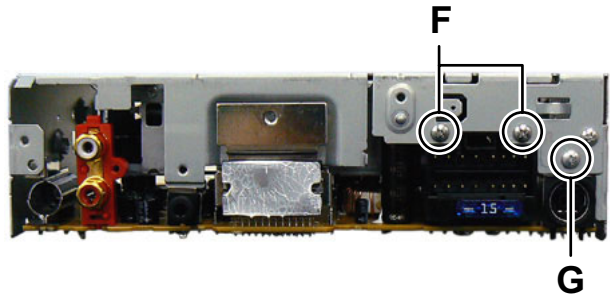

Fig.5
3.1.4 Removing the MAIN BOARD assembly (See Fig.5,6)
- (1) Remove the two screws **F** and one screw **G** attaching the MAIN BOARD assembly. (See Fig.5)